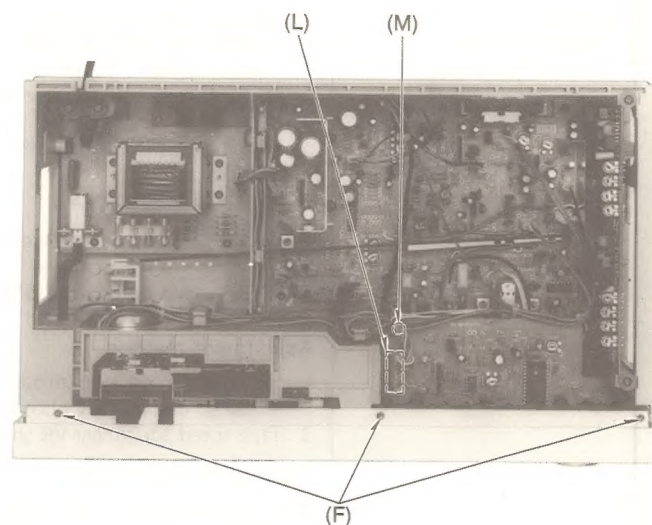
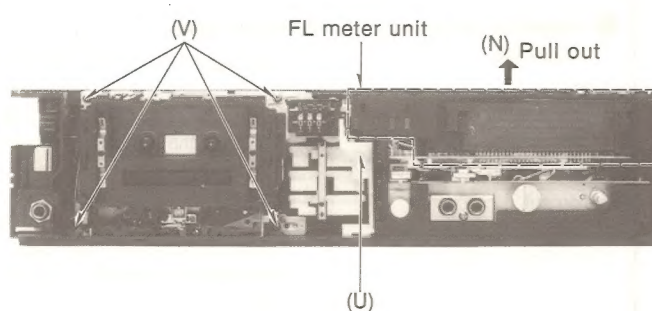

Fig. 4
Fig. 6
Equipment: • VTVM • Test tape (azimuth) ... QZZCFM	2. Playback the 8kHz signal from the test tape (QZZCFM). Adjust screw (B) in fig. 4 for maximum output L-CH and R-CH levels. When the output levels of L-CH and R-CH are not at maximum at the same time, readjust as follows. 3. Turn the screw shown in fig. 4 to find angles A and C (points where peak output levels for left and right channels are obtained). Then, locate the angle B between angles A and C, i.e., a point where L-CH and R-CH output levels come together at maximum. (Refer to figs. 4 and 5.) L-CH/R-CH phase adjustment 4. Make connections as shown in fig. 6. 5. Playback the 8kHz signal from the test tape (QZZCFM). Adjust screw (B) shown in fig. 3 so that pointers of the two VTVMs swing to maximum and a waveform as illustrated in fig. 6 is obtained on the oscilloscope.